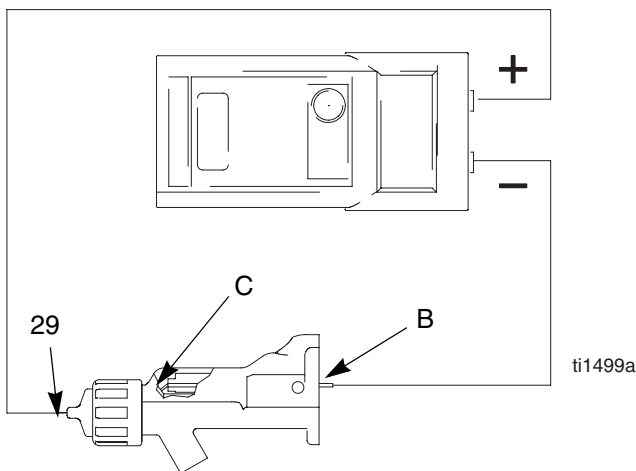

Fig. 19. Test Electrode Resistance
2. Insert a conductive rod (B) into the gun barrel (removed for the power supply test) and against the metal contact (C) in the front of the barrel.
3. Measure the resistance between the conductive rod (B) and the electrode (29). The resistance should be 20-30 megohms. See FIG. 19..